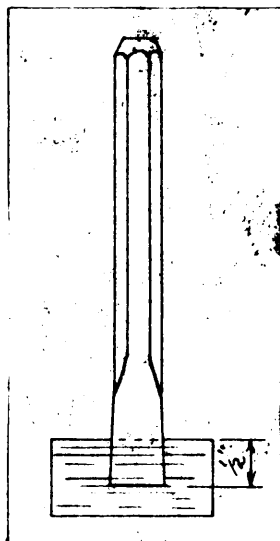

Figure 2.
2. Dip the heated end in the water immediately, to about the depth of  $\frac{1}{2}$ " (Figure 2). Move it slowly back and forth, and slightly up and down. Moving back and forth brings the chisel in contact with cool water. The up and down motion prevents the fracturing of steel at any definite water line. This fracturing is due to the contraction of one portion away from the other at the water line.